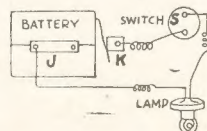

Fig. 6—The electrical circuit
Invert the box—having the base removed, of course, and run one of the wires from the lamp across the inside of the box and out through one of the holes to the switch. It will be best during these instructions of wiring to follow the wiring diagram given as Fig. 6. Now take the second wire from the lamp across the box to the arched brass connection at (J). Loosening one of